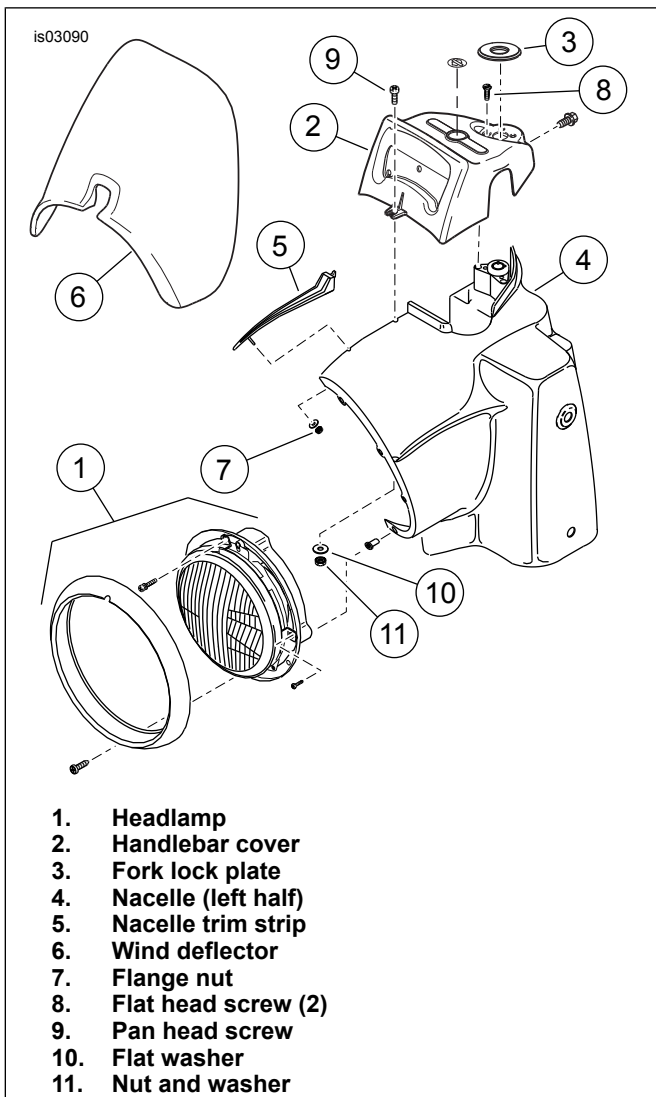

Figure 2. Nacelle, Headlamp and Handlebar Cover (FLHRS Models)
**For Australia, Brazil, England, Europe and Japan:** See Figure 2. The flat head screws (8) have break-away heads and are not easily removable. To remove screws with break-away heads, make a pilot hole in the top of each screw with a center punch and back out the screw with a 1/8 in. (3 mm) left-hand drill bit.